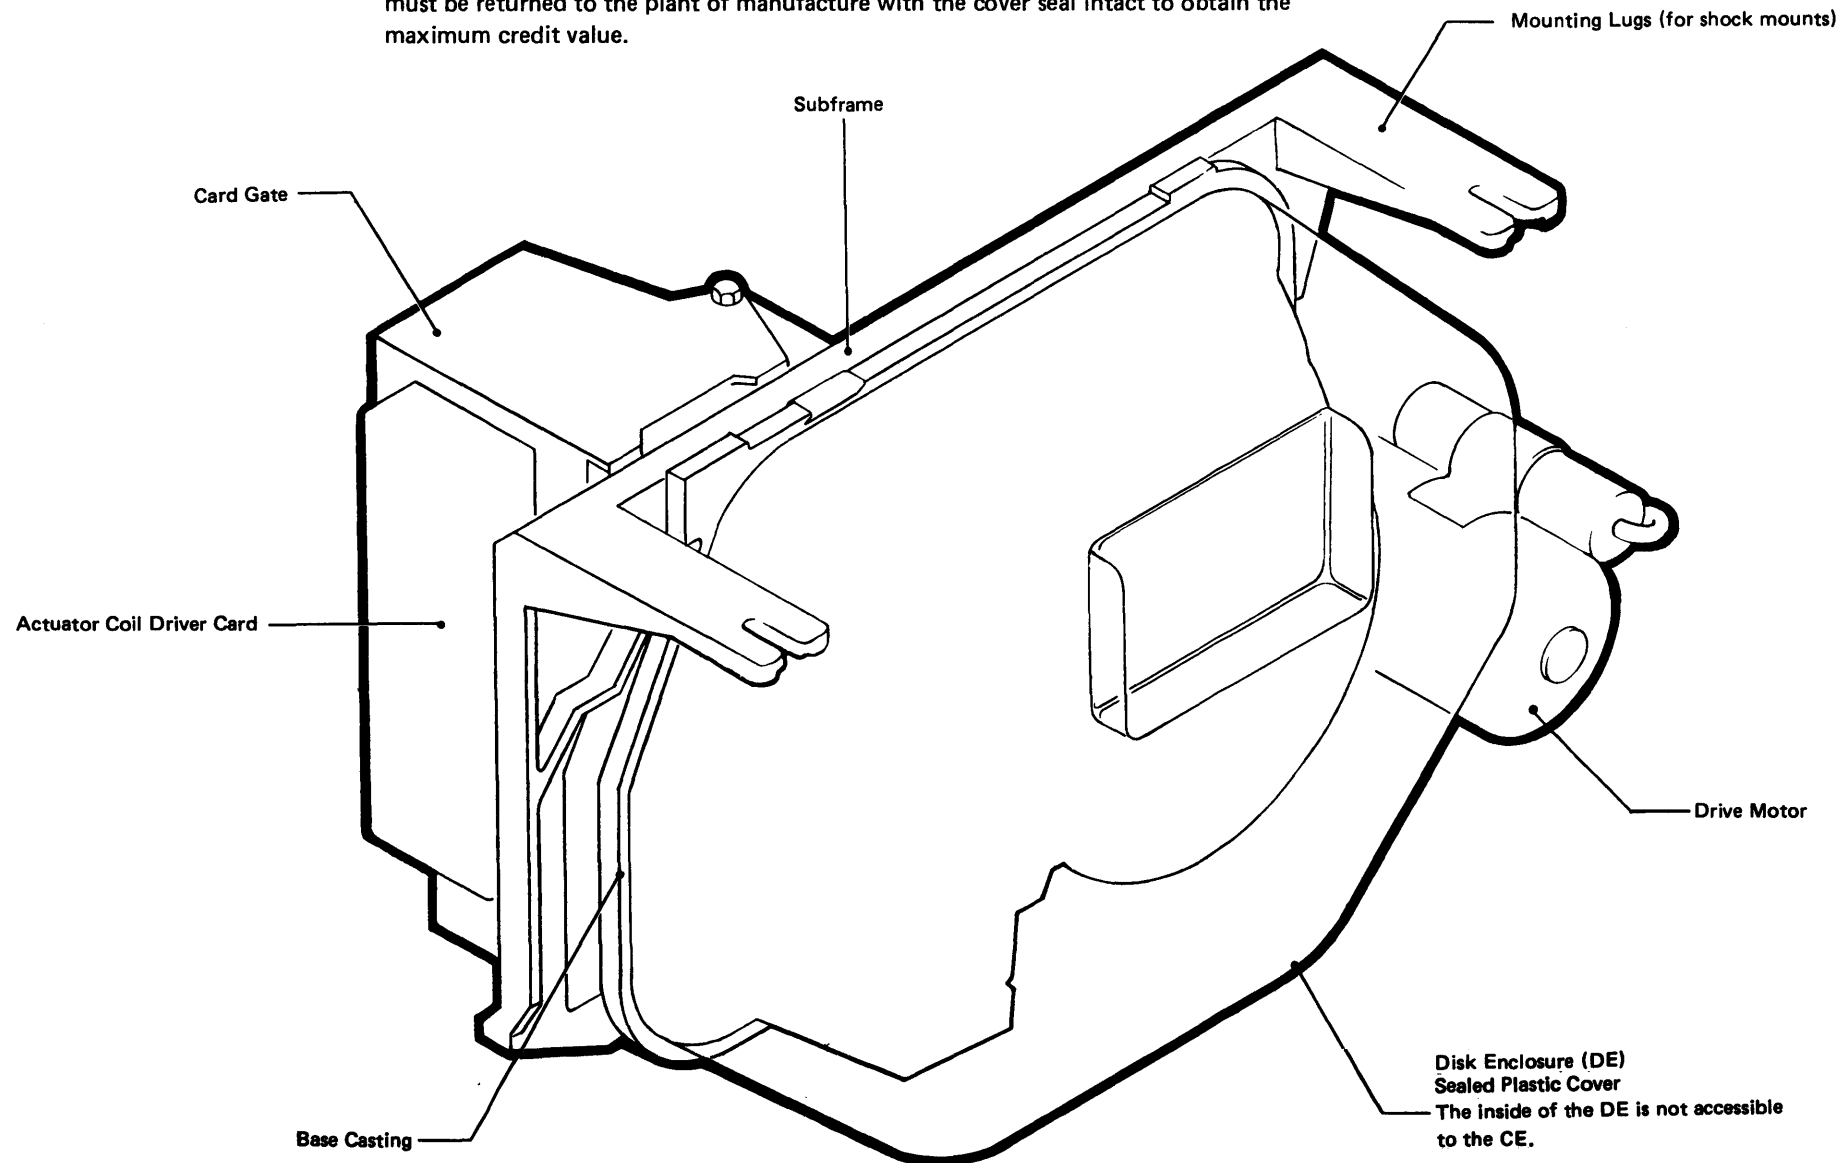

Figure FA100-1. Disk Storage Drive Basic Diagram
The 8100 system disk storage drive (Figure FA100-1) consists of a disk enclosure (DE), a drive motor, and a card gate mounted on a subframe. The DE consists of a sealed unit that houses the disks, the access mechanism, and some associated electronics. Three shock mounts inside the 8100 system units fasten the disk drive subframe to the 8130, 8140, or 8101 frame; the frame supplies ac and dc power.